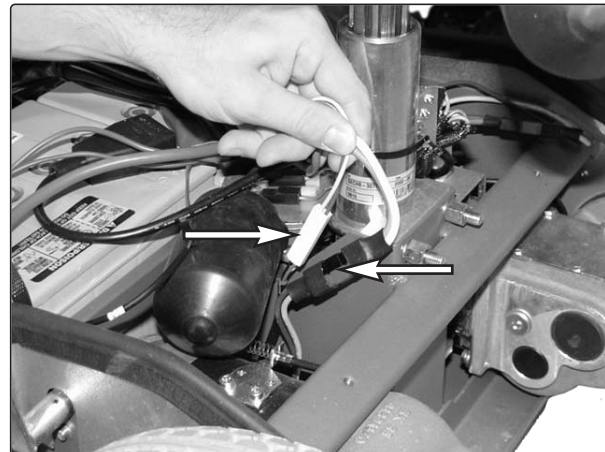

Fig.25. Magnetic brake and drive motor electrical connectors.
7. Disconnect the electrical connectors for the motor and magnetic brake, see fig. 25.